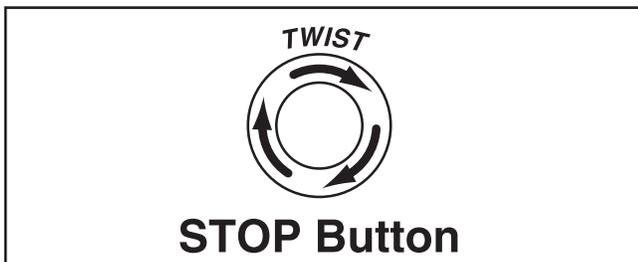

Figure 27. Resetting the Emergency Stop button.
6. Twist Emergency Stop button on control panel clockwise until it pops out (see **Figure 27**). This resets button so machine will start.
16. Twist Emergency Stop button on control panel clockwise until it pops out (see **Figure 27** on **Page 29**). This resets button so machine will start.
21. Twist Emergency Stop button on rear of machine clockwise until it pops out (see **Figure 27** on **Page 29**). This resets button so machine will start.